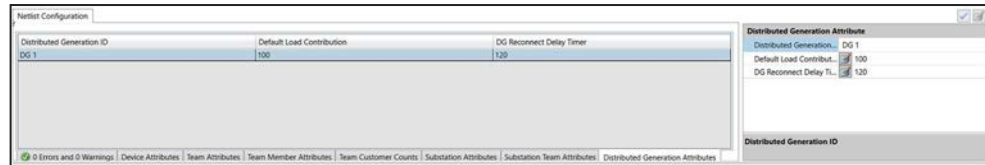

Figure 80. The Distributed Generation Attributes tab is used for configuring DG device parameters.
STEP 6. Click on the **Distributed Generation Attributes** tab below the configuration dialog box and the Distributed Generation Attribute dialog box will open. Highlight the Distributed Generation ID entry for the DG device to configure. See Figure 80 on page 82.